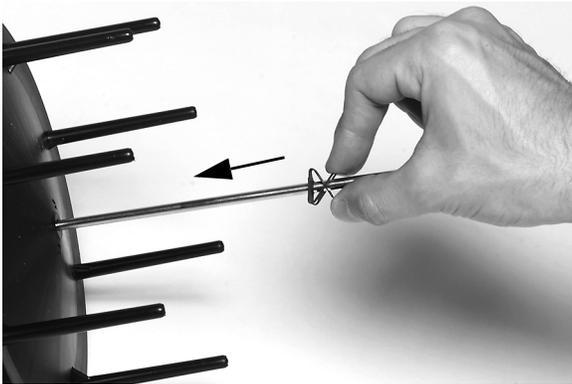

Fig. 17. Installing Spring Retainer.
2. Secure Closed Drum End to Drum Shaft using Spring Retainer. See Fig. 17. (Squeeze spring ends slightly to install.)